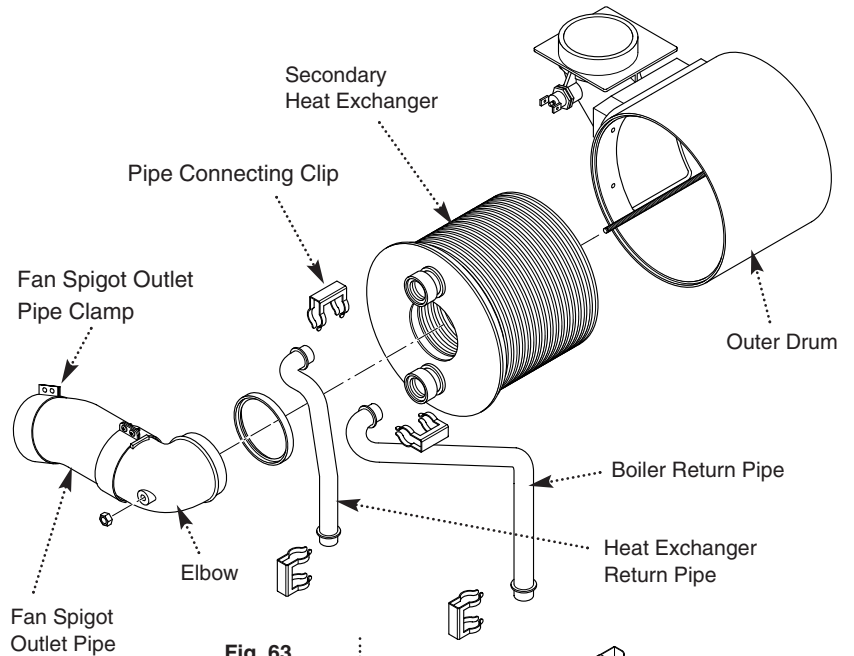

Fig. 63
12.23 Secondary Heat Exchanger (Fig. 63)